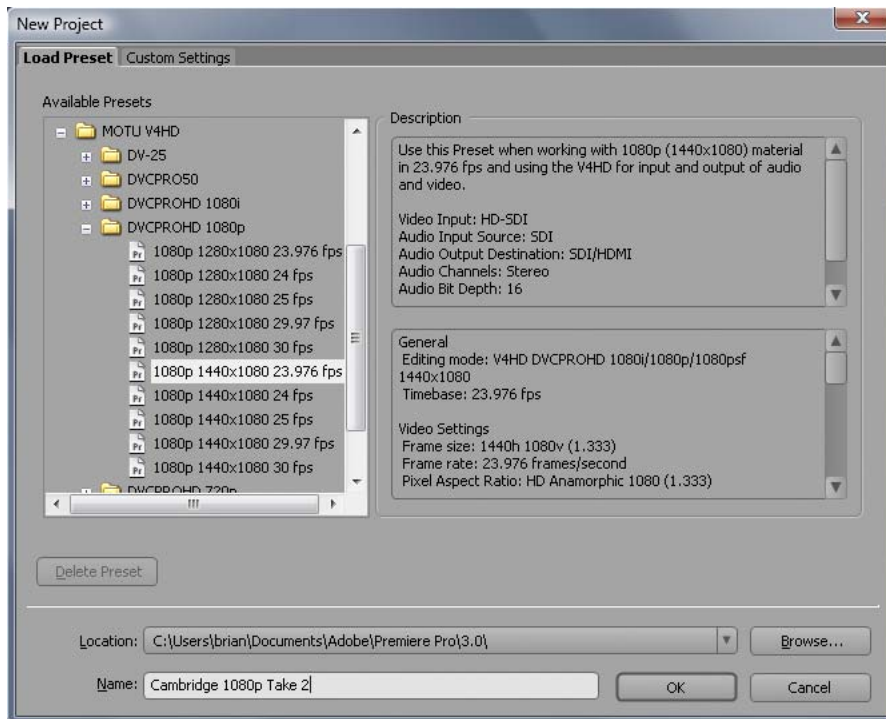

Figure 7-1: Creating a new project in Premiere Pro.
- 2 When the Welcome screen appears, click *New Project*, select a V4HD preset from the *Load Preset* panel (Figure 7-1), name the project and click OK.
The V4HD software installer provides the MOTU V4HD factory-supplied project presets shown in Figure 7-1. These presets are organized in directories by video format. Each preset is clearly named with a video frame format, raster size and frame rate. Choose the preset that most closely matches the settings you need. You can adjust settings further using the *Custom Settings* tab.